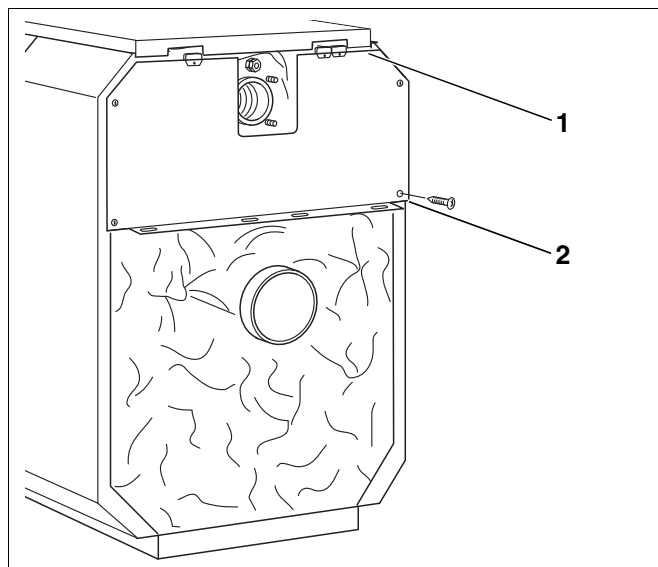

Fig. 55 Fitting the upper boiler rear panel
- Push upper rear boiler panel under the rear boiler cover (Fig. 55, [1]) and screw to the side panels from the back using four self-tapping screws (Fig. 55, [2]).